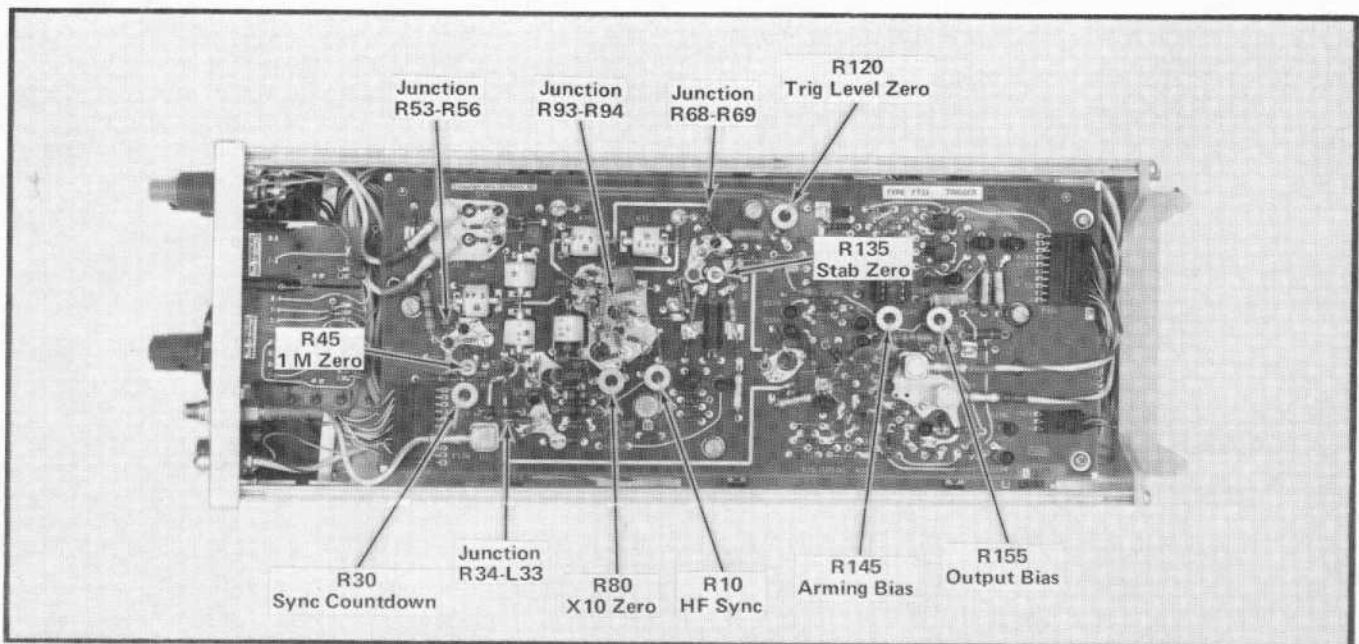
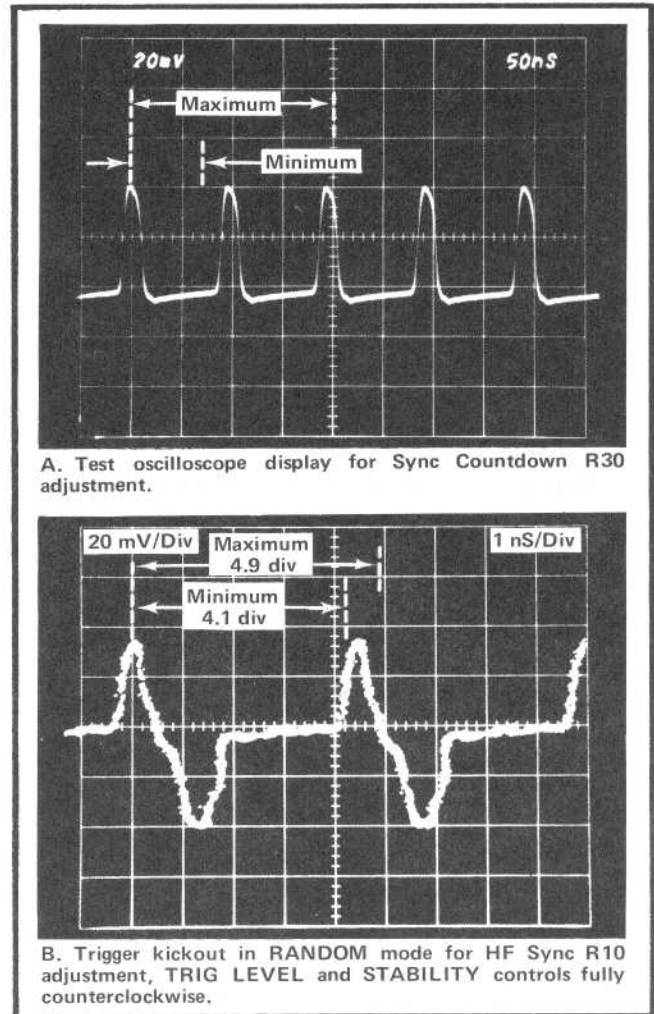

Fig. 5-7. Test point and adjustment locations on the Trigger Board, 7T11 right side.
Fig. 5-8. Typical displays for HF Sync adjustments.
7. Adjust Random Timing (R270) ①
8. Adjust Trig Level ①
c. Connect the 1X probe from the +Input to the junction of R68-R69, on the Trigger Board (Fig. 5-7).
9. Adjust Stability (R135) and Trig Level Zero (R120) ①
c. Adjust Stab Zero control R135 and Trig Level Zero control R120 so the trace starts to oscillate when the STABILITY control is about 60° to 90° from fully counterclockwise. See Fig. 5-7 for control locations.
10. Adjust External Trigger Zero (R80 and R45) ①
- e. Connect the 1X probe to the junction of R94-R93; see Fig. 5-7.
11. Adjust HF Sync (R10 and R30) ①
- e. Obtain a stable display and check for a pulse repetition rate of about 10 MHz (between 5 MHz and 15 MHz is acceptable). See Fig. 5-8.